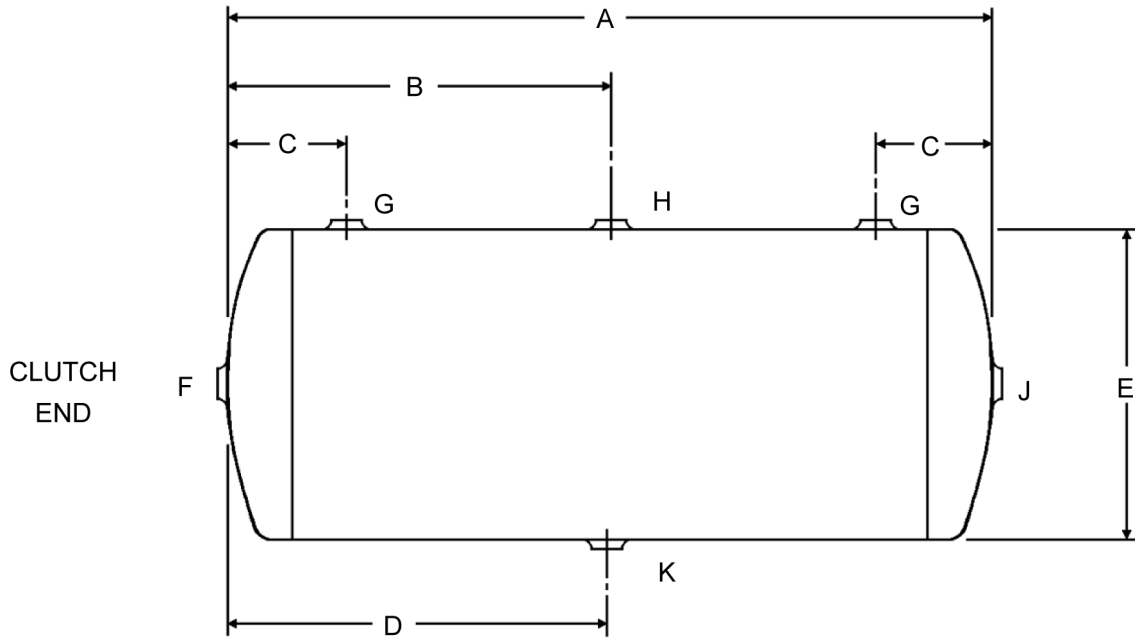

Figure 10 AIR TANK (ITEM NO.17)
2.8.1.1 The air receiver tank must be located as close to the rotors & as possible (the tank should be located within 15 feet of the solenoid valve, and solenoid valve should be within five feet from the roto seal) for consistent clutch response. See **Figure 10** for the appropriate air receiver tank size.